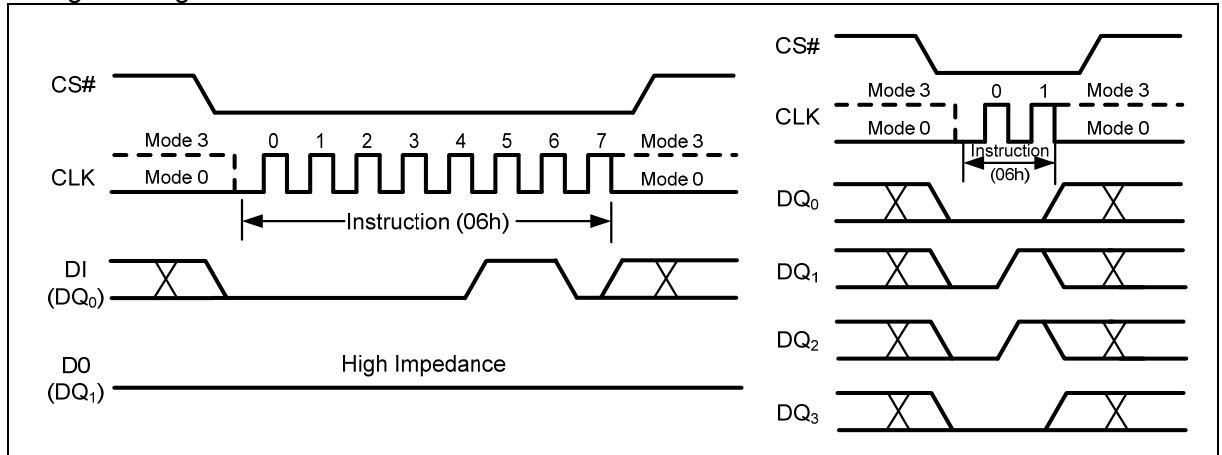

Figure 7 Write Enable Instruction for SPI Mode (left) or QPI Mode (right)
Instructions vary in length from a single byte to several bytes and may be followed by address bytes, data bytes, dummy bytes (don't care), and in some cases, a combination. Instructions are completed with the rising edge of edge CS#. Clock relative timing diagrams for each instruction are included in Figure 7 through Figure 70. All read instructions can be completed after any clocked bit. However, all instructions that Write, Program or Erase must complete on a byte boundary (CS# driven high after a full 8-bits have been clocked) otherwise the instruction will be ignored. This feature further protects the device from inadvertent writes. Additionally, while the memory is being programmed or erased, or when the Status Register is being written, all instructions except for Read Status Register will be ignored until the program or erase cycle has completed.
The Write Enable (WREN) instruction (Figure 7) sets the Write Enable Latch (WEL) bit in the Status Register to a 1. The WEL bit must be set prior to every Page Program, Quad Page Program, Sector Erase, Block Erase, Chip Erase, Write Status Register and Erase/Program Security Sectors instruction. The Write Enable (WREN) instruction is entered by driving CS# low, shifting the instruction code “06h” into the Data Input (DI) pin on the rising edge of CLK, and then driving CS# high.